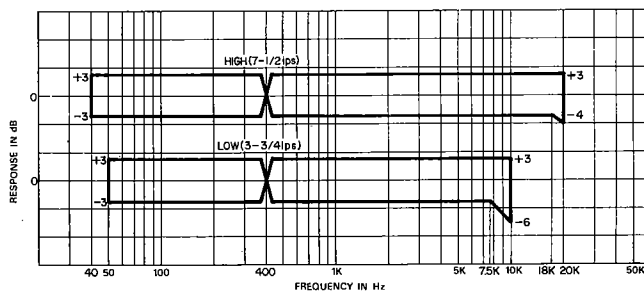

Fig. 8-10 Frequency Response - OVERALL - 1
20. During recording, monitor the Tape signal and adjust equalization L-301/L-303 for readings within the Response Limits charts. See Fig. 8-10 below.
22. Apply signal swept from 40 Hz to 20 kHz, -28 dB (30.8 mV) and while monitoring the off-the-Tape signal check for readings within the Response Limits charts. See Fig. 8-10 below.